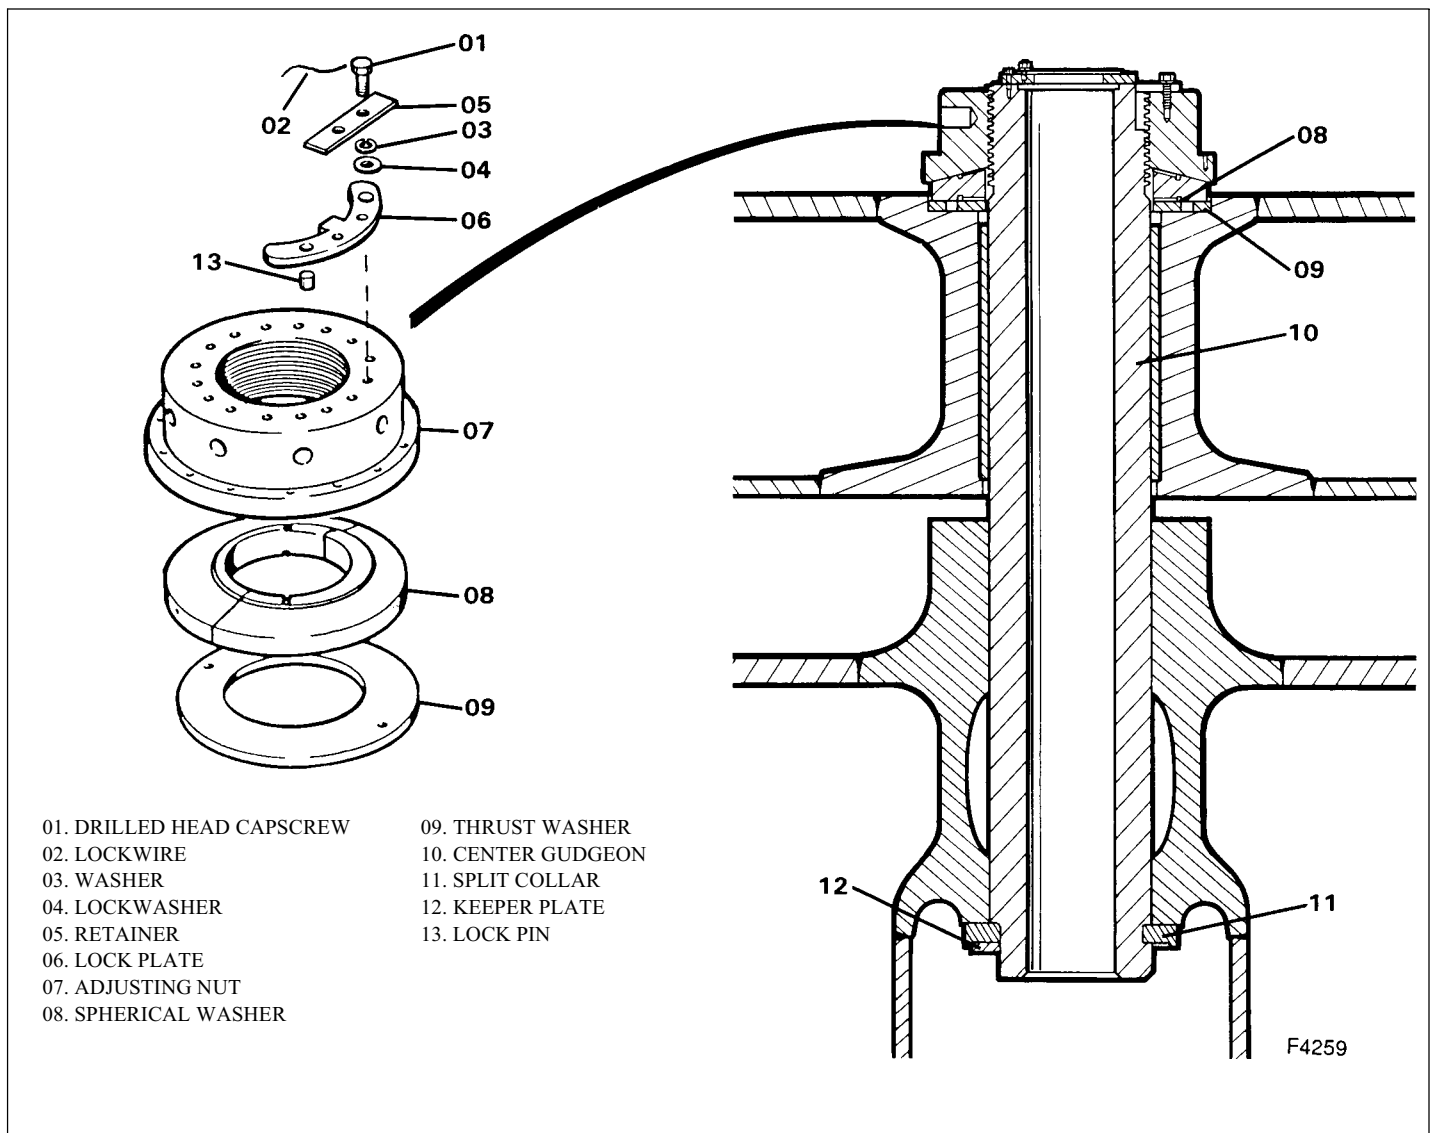

Figure 3-23. Center Gudgeon Assembly
The center gudgeon locking device (Figure 3-23) will lock the nut to the center gudgeon pin in 3.75° increments of rotation.
8. Install the center gudgeon thrust washer, spherical bearing and adjusting nut as follows (see Figure 3-23):
- A. Ensure the new thrust washer (09) and spherical washer (08) are free from burrs, scratches, and other damage.